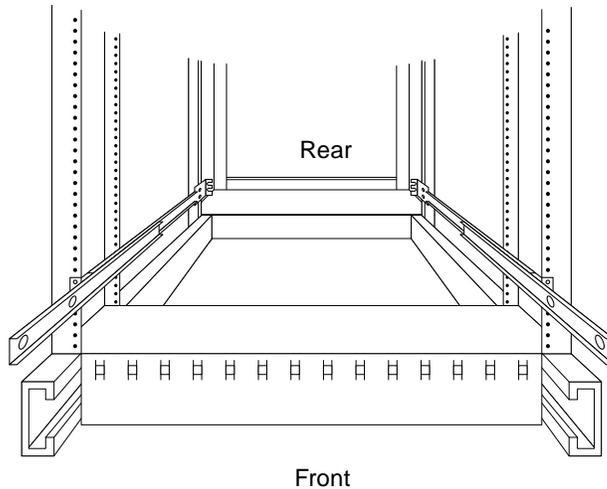

FIGURE 4-5 Placing the Slide Rails Inside the Cabinet
1. Place both slide rails inside the cabinet, with the bent brackets towards the rear of the cabinet and facing inside the cabinet (FIGURE 4-5).